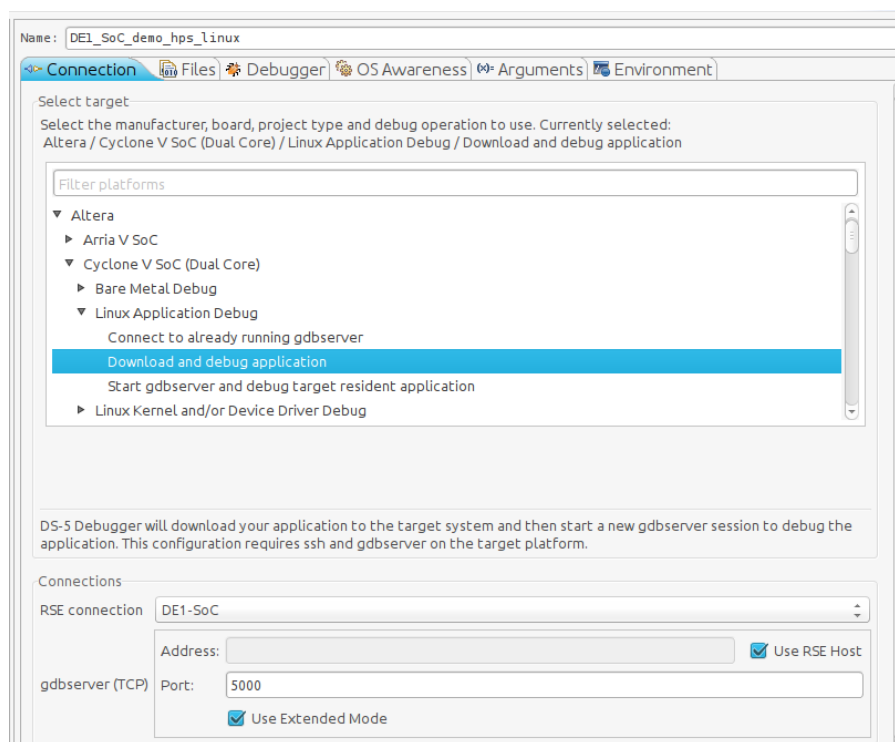

Figure 8-53. Debug Configuraton “Connection” Tab
- b. Set the "RSE connection" to "DE1-SoC". This is the remote system connection we created earlier. You should have something similar to Figure 8-53.